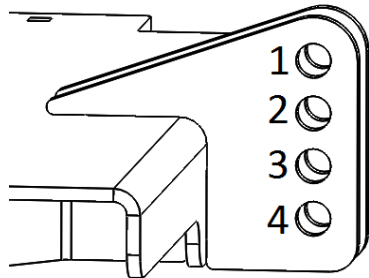
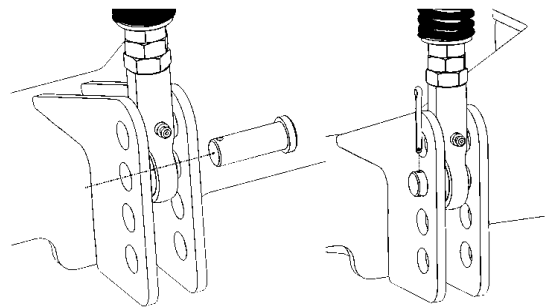

Figure 8: Clevis Hole Callout
Figure 9: Clevis Pin Insertion
| Figure 8: Clevis Hole Callout | 11 |
| Figure 9: Clevis Pin Insertion | 11 |
6. Once the bottom plate is installed the clevis pin can then be installed. Refer to Figure 8, Figure 9, and Table 1 to ensure the clevis pin is in the right location. This will require the gate being lowered to about 45 degrees.